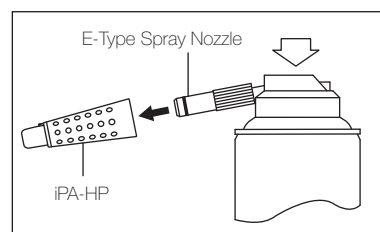

Fig. 7
- 3) Attach the Spray Nozzle into the Spray Port nozzle on the can. (Fig. 7)
- 4) Insert the Spray Nozzle into the rear of the hanpeace tip (IPA-HP). Hold the handpiece tip and spray 2-3 times for approximately 2-3 seconds each time. Apply lubricant until it expels from the handpiece tip head for at least 2 seconds. (Fig. 7)